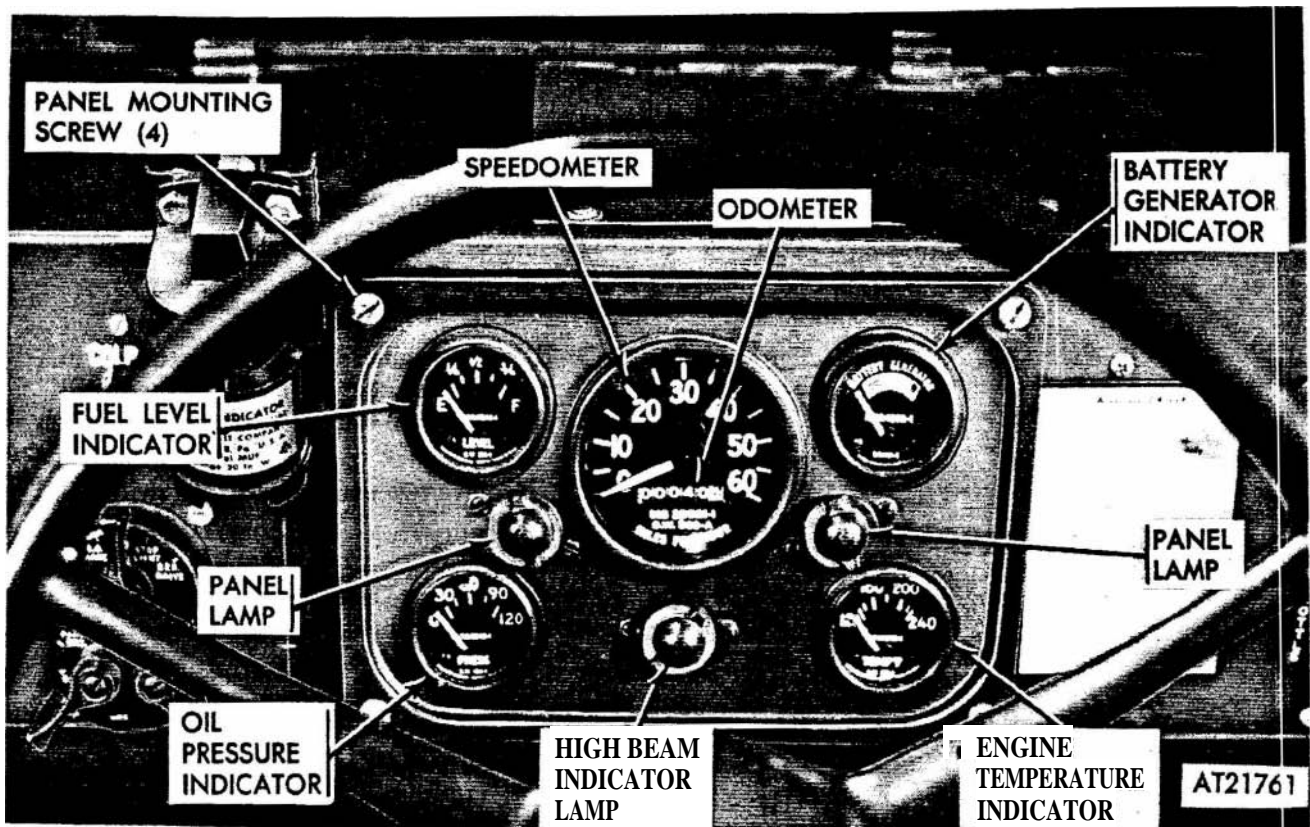

Figure 2-109. Instrument panel
(1) Remove instrument panel and spacer from dash panel by removing four screws. Pull panel out a sufficient distance to permit removal of defective assembly (fig 2-109).
(2) Disconnect lead from back of defective lamp assembly.
(3) Remove defective lamp assembly by removing two screws and lock washers.
- (1) Attach lamp assembly to panel with two screws and lock washers (fig 2-109).
- (2) Connect lead to lamp assembly.
- (3) Turn light switch on to check lamp assembly. Turn light switch off.
- (4) Attach instrument panel and spacer to dash panel with four screws.
- (1) Remove lamp by unscrewing lens cap (fig 2-109).
- (2) Remove lamp by depressing and turning lamp counterclockwise.
- (1) Insert lamp in receptacle. Depress and turn lamp clockwise to engage in receptacle (fig 2-109).
- (2) Turn light switch on to check lamp. Turn light switch off.
- (3) Install lens cap.
screws. Pull instrument panel out a sufficient distance to permit removal of fuel level indicator (fig 2-109).
(1) Position fuel level indicator in hole of instrument panel. Secure with mounting bracket, two nuts, and lock washers (fig 2-109).
(3) Attach panel and spacer to dash panel with four screws (fig 2-109).
(1) Remove instrument panel assembly and spacer from dash panel by removing four mounting screws. Pull instrument panel out a sufficient distance to permit removal of battery-generator indicator (fig 2-109).
(2) Disconnect two electrical connectors from battery-generator indicator.
(3) Remove battery-generator indicator and mounting bracket from instrument panel by removing two nuts and lock washers.
(1) Position battery-generator indicator in hole of instrument panel. Secure with mounting bracket, two nuts, and lock washers (fig 2-109).
(1) Remove instrument panel assembly and spacer from dash panel by removing four mounting screws. Pull instrument panel out a sufficient distance to permit removal of engine temperature indicator (fig 2-109).
(1) Remove instrument panel assembly and spacer from dash panel by removing four mounting screws. Pull instrument panel out a sufficient distance to permit removal of oil pressure indicator (fig 2-109).
(2) Disconnect two electrical connectors from oil pressure indicator.
(3) Remove oil pressure indicator and mounting bracket from instrument panel by removing two nuts and lock washers.
(1) Position oil pressure indicator in hole of instrument panel. Secure with mounting bracket, two nuts, and lock washers (fig 2-109).